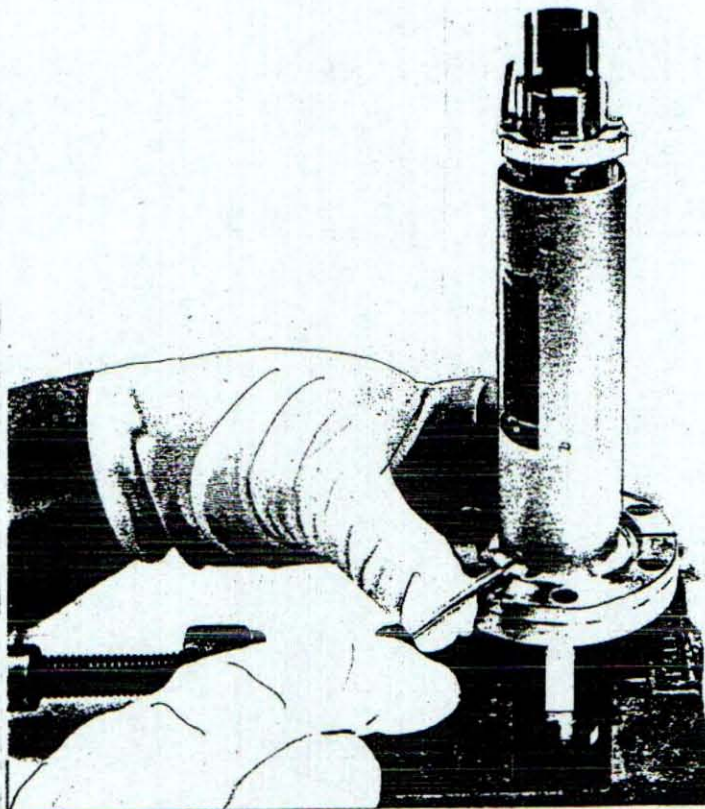

Figure 4. Removal of screws in base of lens assembly.
3. Remove the three 2-56 screws at the base of the lens assembly (Figure 4).
3. Remove the three 2-56 screws at the base of the lens assembly. (Fig. 4)